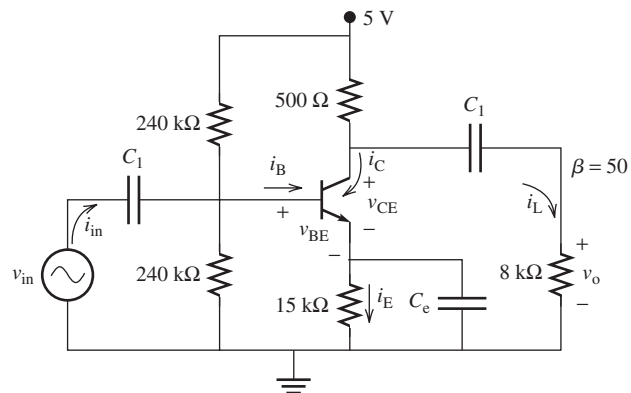

FIGURE P8.50 Circuit for Problem 8.50.
8.50 (H) For the circuit shown in Figure P8.50, find A_v , A_i , R_i , and R_o .